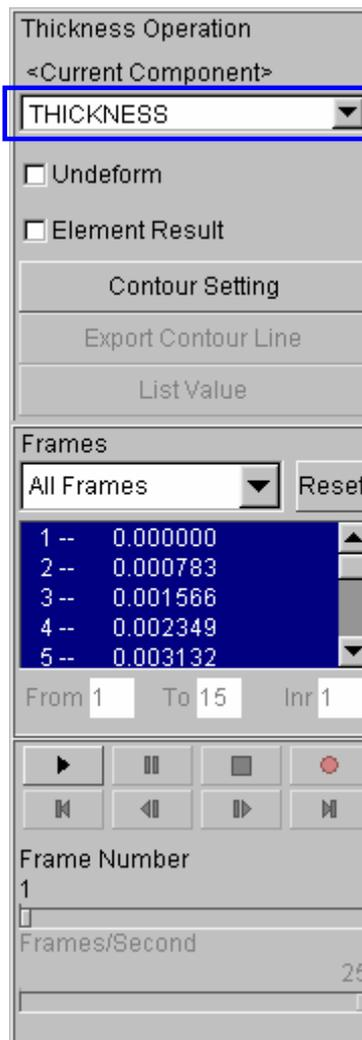

Figure 4.38 Thickness/Thinning dialog box
2. Select **Current Component** from combo box, either THICKNESS or THINNING, as illustrated in Figure 4.38.